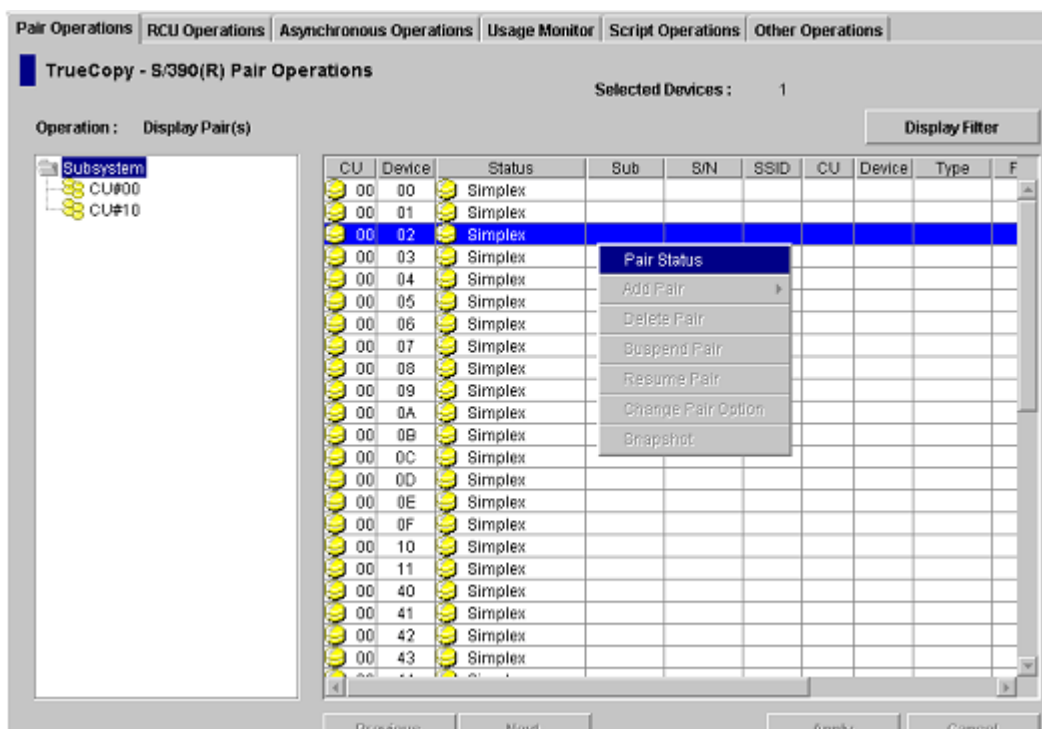

Figure 61 TrueCopy main window (Pair Operations window)
3. Right-click to display the pop-up menu (see Figure 61). The pop-up menu consists of the following: